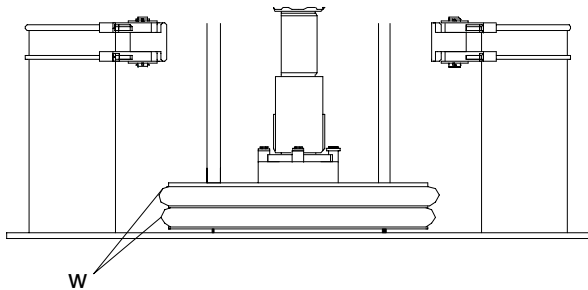

Fig. 5
- a. Position the wipers so the butt joints are 180° apart (Fig. 5).